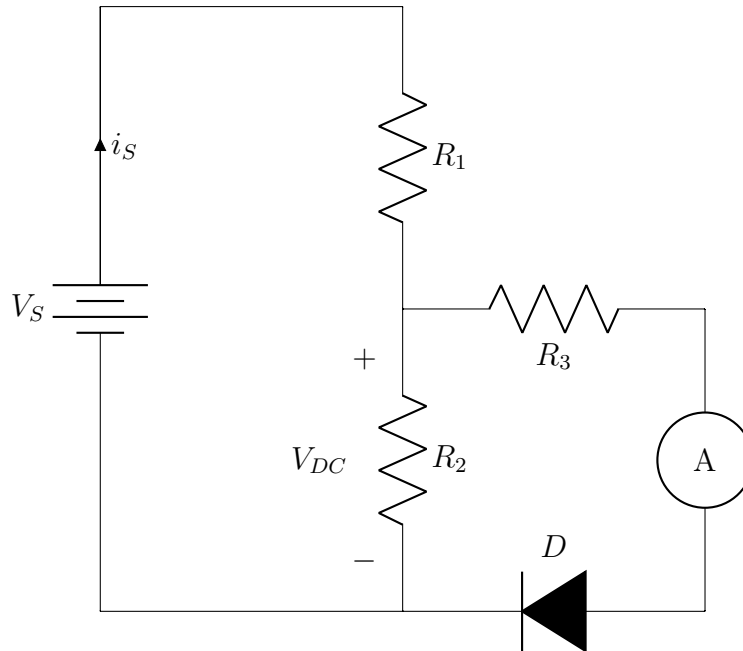

Figure 2: PN-Junction Diode Test Circuit
2. The minimum output voltage by the Power Supply Module is 0.6V. To provide a low enough voltage to see the diode turn on, a voltage divider circuit is needed. Build the circuit shown in Figure 2 using the UCTRONICS U6225 Power Supply Module and the AstroAI AM33D Digital Multimeter as an Ammeter (measure with the $2000\mu\text{A}$ setting) with $R_1 = 680\Omega$, $R_2 = 100\Omega$, and $R_3 = 1000\Omega$.
1. Define all parameters and variables in Equation (2).
2. Plot the $I_D(V_{PN})$ characteristics obtained on a log-linear plot. Note that the term ‘log-linear’ is used to describe a semi-log plot with a logarithmic scale on the y-axis and a linear scale on the x-axis. The y-axis label should read ‘1N4148 Diode Current, I_D (A)’ and the x-axis label should read ‘Diode Voltage, V_{PN} (V).’ Make sure to have enough data points to generate a smooth curve. Use the measured value of V_{PN} (from your V_{PN} vs V plot) across the diode in this plot, i.e., do not assume that the voltages supplied by the power supply are those across the diode.
5. Comment on the values of I_S and γ that yield the best fit to the data. How do your experimental and varied values compare with those given in the diode manufacturer data sheets? (For R_s use Figure 2, curve 2, on the Vishay datasheet. I_S can be found under reverse current, and γ should be about 2.3.)